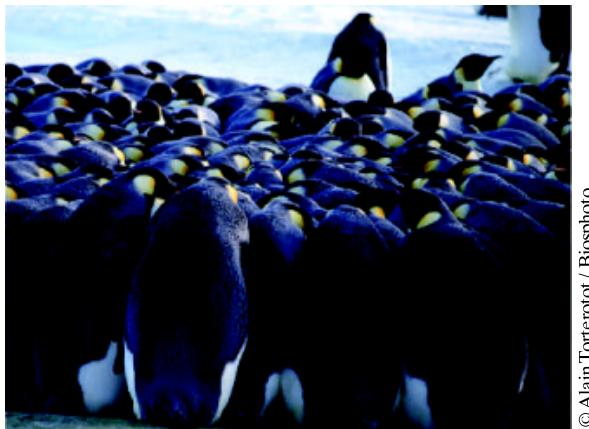

Figure 18.27 Problem 64.
**64 M BIO FCP** *Penguin huddling.* To withstand the harsh weather of the Antarctic, emperor penguins huddle in groups (Fig. 18.27). Assume that a penguin is a circular cylinder with a top surface area  $a = 0.34 \text{ m}^2$  and height  $h = 1.1 \text{ m}$ . Let  $P_r$  be the rate at which an individual penguin radiates energy to the